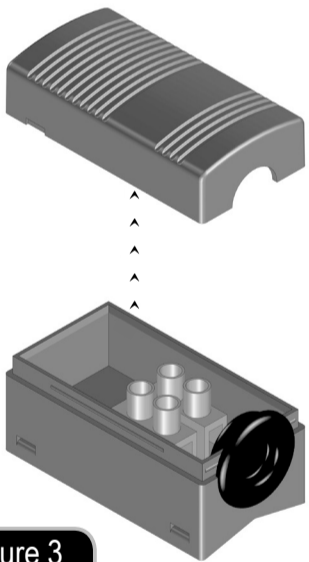

Figure 3
1) Open the cover of temperature sensor package. (See Figure 3)